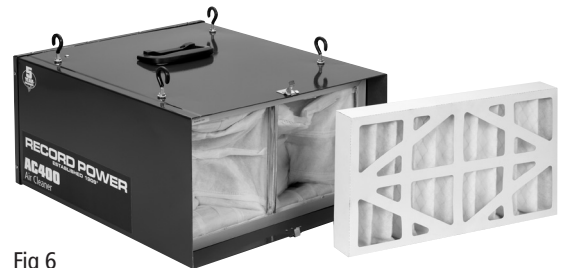

Fig 6
- Once the outer filter is removed the inner filter can now be pulled out of the unit (Fig 6). The inner filter can be blown out with air or washed out. The filter should be completely dry before reinstalling into the machine.